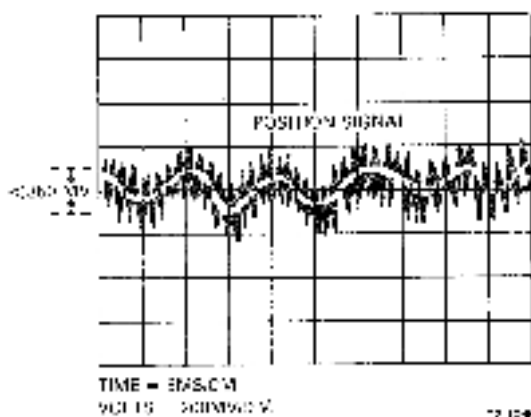

Figure 9-7 Position Signal
7. Disable servo error to the carriage by disconnecting the in-line connector (Figure 9-7).
9. Set the oscilloscope to sync internal, negative-going, and observe the waveform in Figure 9-7.